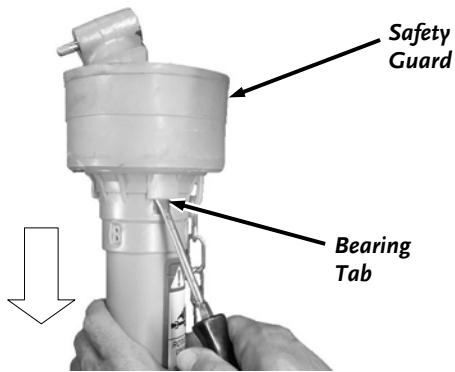

Figure 25
2. Separate the Guards from the PTO Shaft Halves by inserting a flat tip screwdriver into the Bearing Tab Slots as you pull down on the Safety Guard to release the Safety Guard from the Shaft (**Figure 25**).